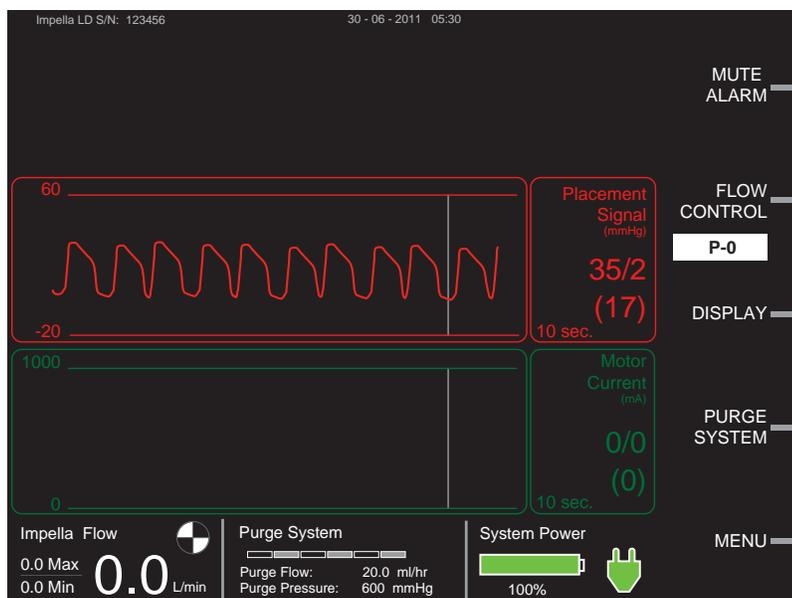

Figure 5.35 Pulsatile Waveform on Placement Signal Screen
14. Gently advance the catheter forward until a pulsatile waveform is present on the placement screen (see Figure 5.35) This signal is generated when the inlet area of the catheter crosses the aortic valve.